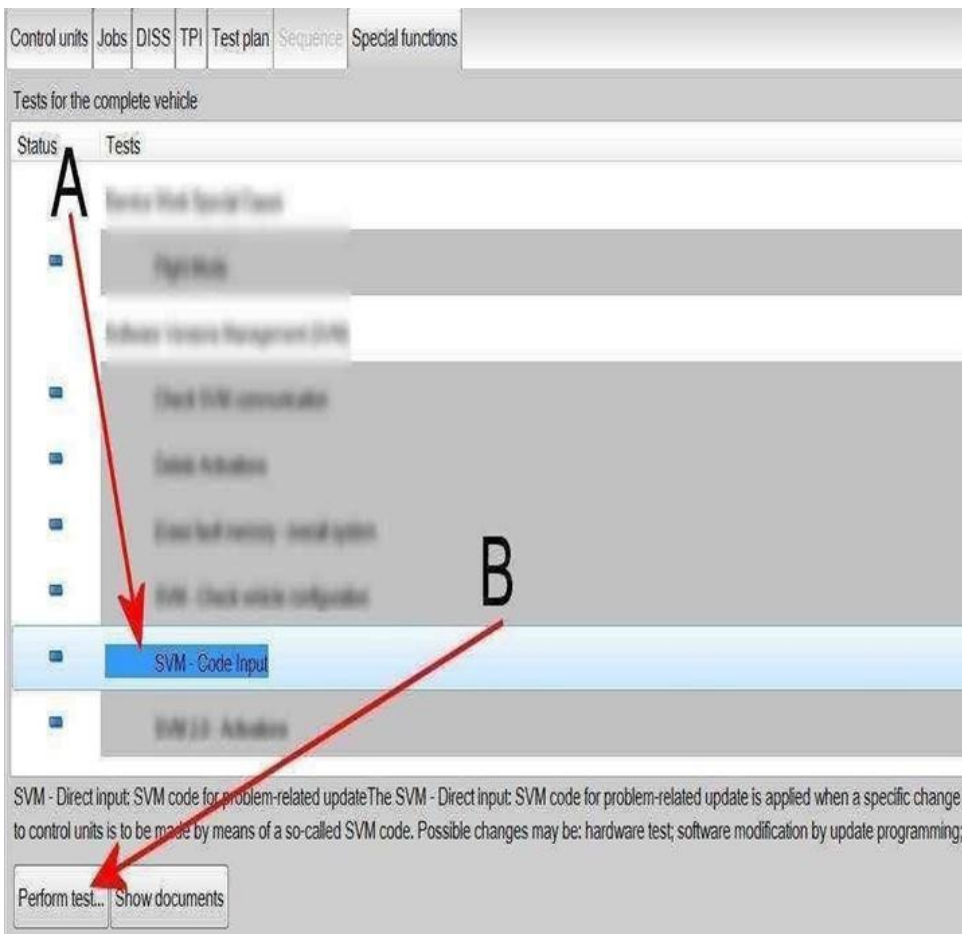

Figure 2
- Referring to Figure 2 - Within the Special functions tab select SVM - Code input (A) then select Perform test (B)